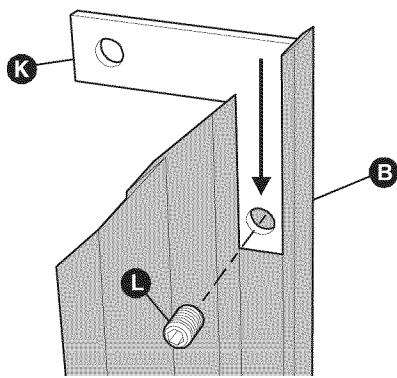

Figure 4
- Attach brackets (K) to the angled end of each side trim (B and C). Gently secure brackets to side trim by tightening set screws (L) only until snug to avoid dimpling the extrusion face. **DO NOT OVERTIGHTEN**. See Figure 4.